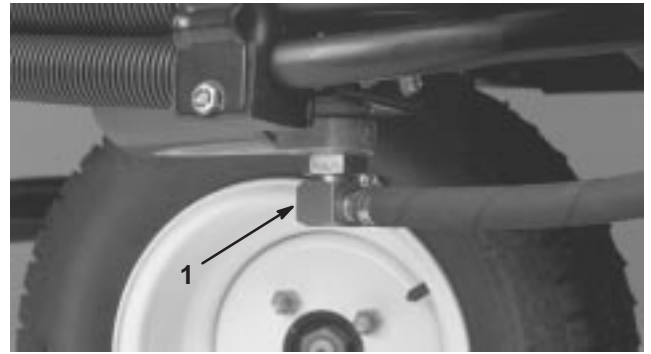
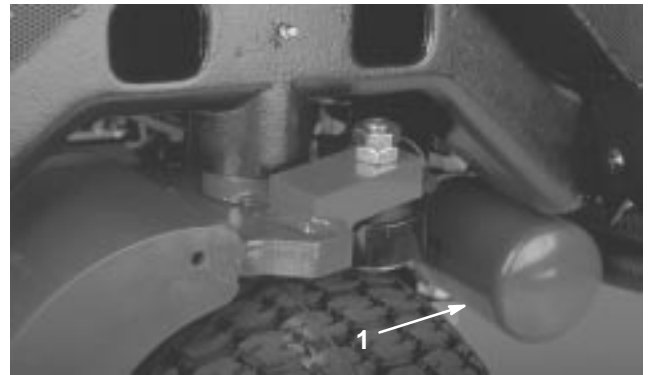

Figure 54
Figure 55
2. Disconnect the hydraulic line (Fig. 54) or remove the hydraulic filter (Fig. 55) and let the hydraulic fluid flow into a drain pan. Install the hydraulic line when hydraulic fluid stops draining.
3. Clean around the filter mounting area. Place a drain pan under the filter (Fig. 55) and remove the filter.